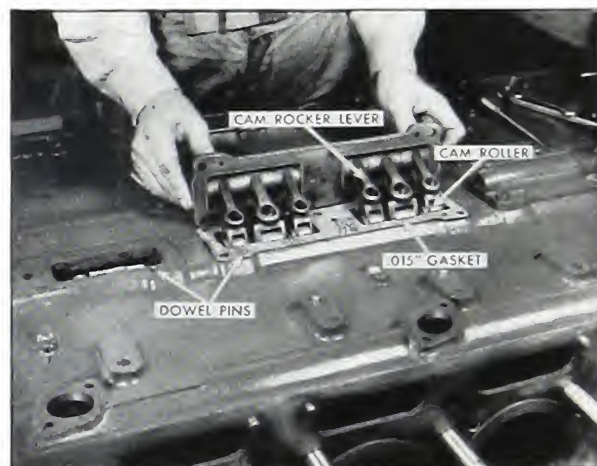

Fig. 12-4. Cam rocker lever assembly
2. Use a new gasket and assemble the lever and housing assemblies to the cylinder block. Secure with lockwashers and capscrews. (Fig. 12-4).